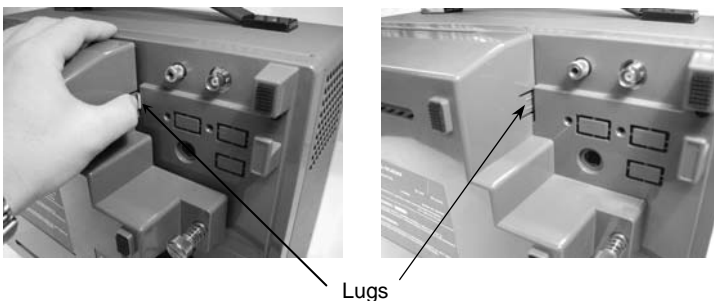

Figure 5 Mounting the DC Adapter B (Right Side)
2. Then align the upper and lower lugs on the right side of the adapter (viewed from the rear side of the oscilloscope) with the lug holes and insert them into the holes. (See Figure 5 below.)